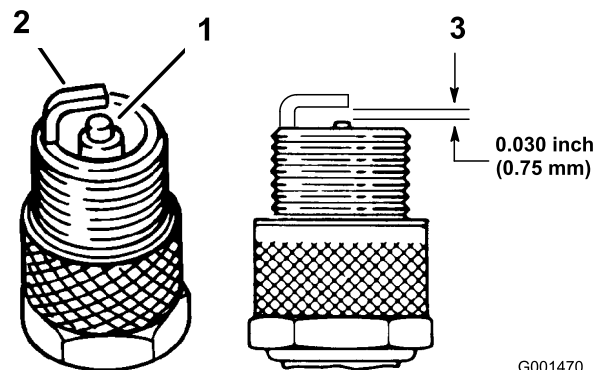

Figure 30
3. Check the condition of the side electrode, center electrode, and center electrode insulator to ensure that there is no damage (Figure 30).
4. Set the air gap between the center and side of the electrodes at 0.030 inch (0.762 mm) (Figure 30). Install the correctly gapped spark plug and tighten the plug to 14 ft-lb (20 N-m).
4. Set the air gap between the center and side electrodes at 0.030 inch (0.762 mm) (Figure 30).